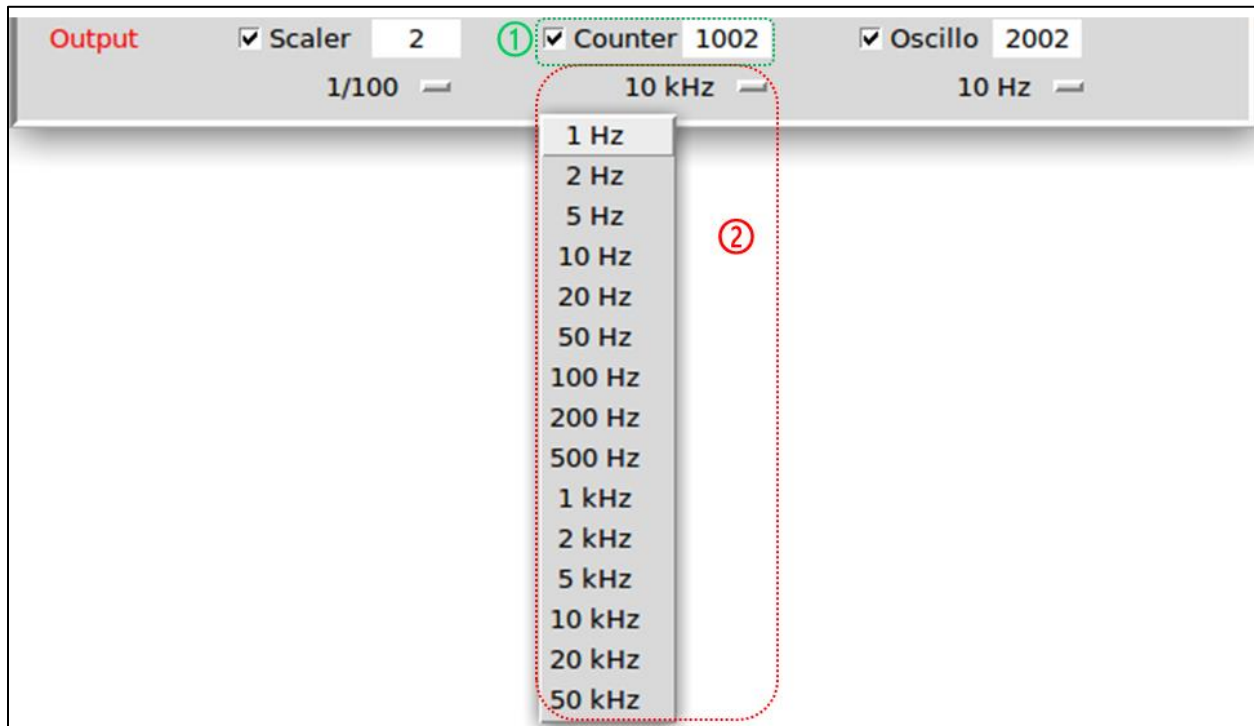

Figure 29: out frequency of the “Counters” data
By enabling the “Counters” output (cf. Figure 29 ①), the experimenter can store and display the counting data, called “Counters” with a selected frequency of 1 Hz, 2 Hz, 5 Hz, 10 Hz, 20 Hz, 50 Hz, 100 Hz, 200 Hz, 500 Hz, 1 kHz, 2 kHz, 5 kHz, 10 kHz, 20 kHz and 50 kHz (cf. Figure 29 ②).